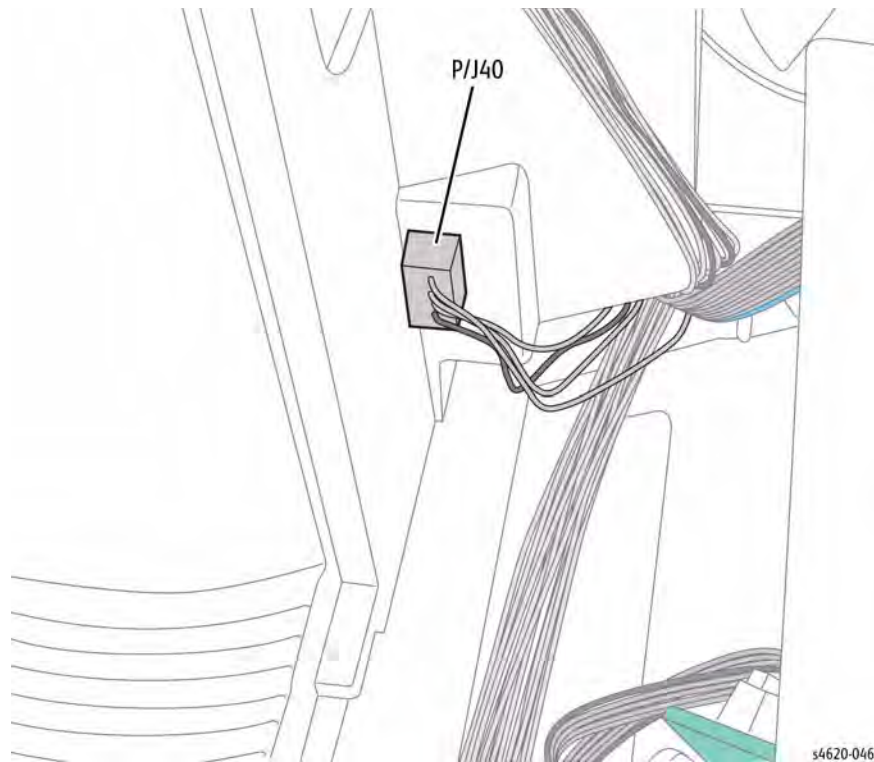

Figure 4 Disconnect the Exit Assembly
13. Disconnect P/J40 from the Exit Assembly, Figure 4.